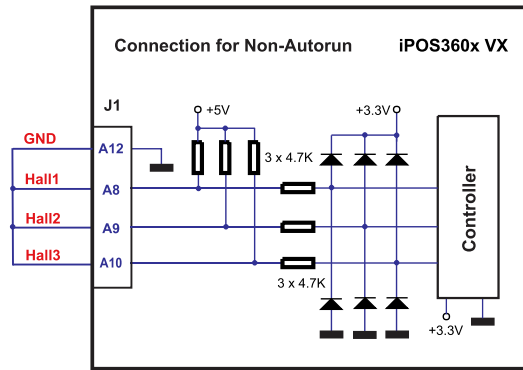

Figure 3.33. Temporary connection during power-on to disable the drive from Autorun mode
- Hardware: connecting all digital Hall inputs to GND, as shown in **Figure 3.33**. This option is particularly useful when you are unable to establish communication with the drive.
In some very rare cases, the setup table might be corrupted, leading to a loop where the drive resets continuously. This behavior can be noticed by seeing both the Ready and Error LED blinking for short periods of time continuously. To recover from this behavior, the setup table can be invalidated by connecting all digital Hall inputs to GND, as shown in **Figure 3.33**.